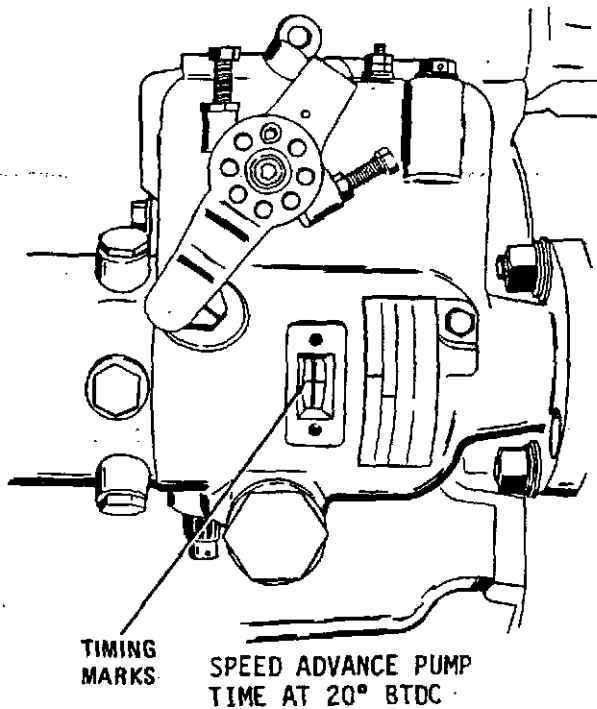

Figure 3-4. Fuel Injection Pump Timing Marks
(2) Remove the timing hole cover plate on the fuel injection pump. The timing marks on the pump should be aligned as shown in figure 3-4. If the marks are not aligned, fine adjustment may be made by loosening the fuel injection pump mounting bolts and rotating the pump slightly. When the marks on the pump are aligned, check that the timing marks on the flywheel are still aligned; then tighten the fuel injection pump mounting bolts. For a large adjustment, loosen the drive shaft and re-position. (Excessive movement of lines will cause over-stress.)
(3) Install timing hole cover plate.